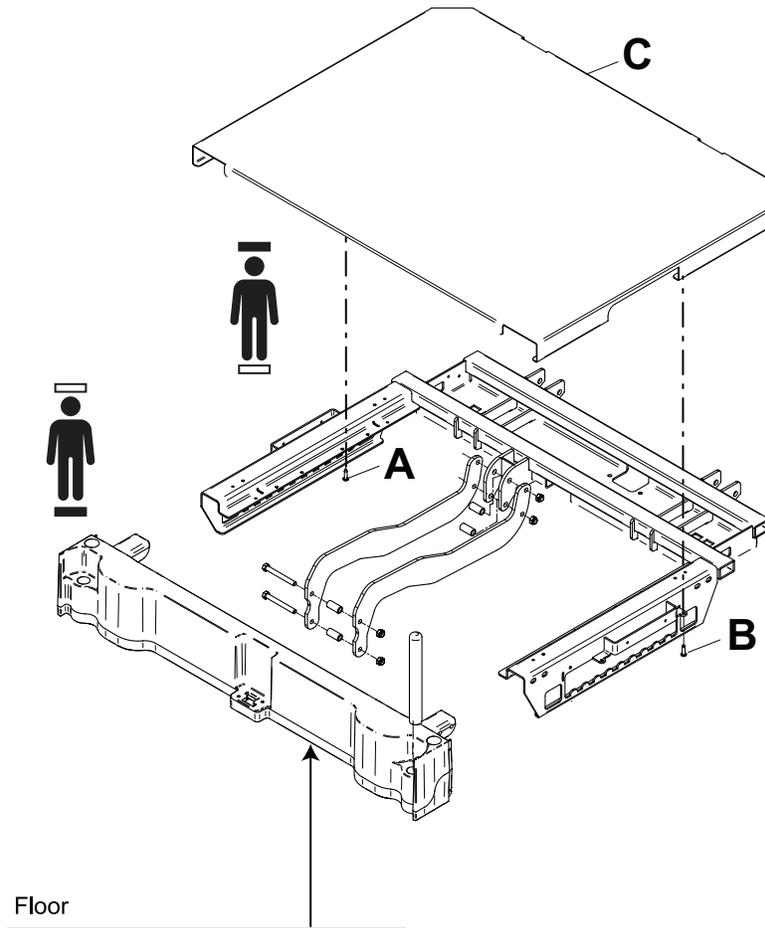

Figure 53 – Foot actuator
4. Using a jack stand, support the foot section by lowering the bed height down enough to take the tension off the actuator mounting pins. Place the jack stand between the floor and the underside of the foot frame (Figure 53).
7. Using a #2 Phillips screwdriver, remove the two screws (A and B) that secure the electrical cover (C) from the foot section (Figure 53). Save the cover and screws.